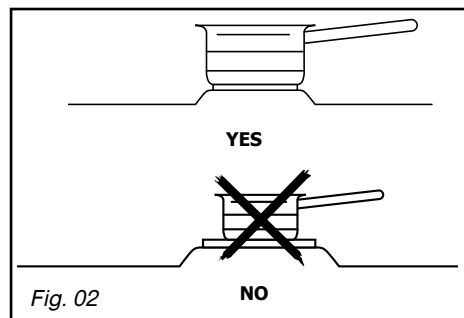

Fig. 02
– Use cookware of an appropriate size: the diameter of the bottom should be greater than or equal to the diameter of the electric cooking zone (Fig. 02).